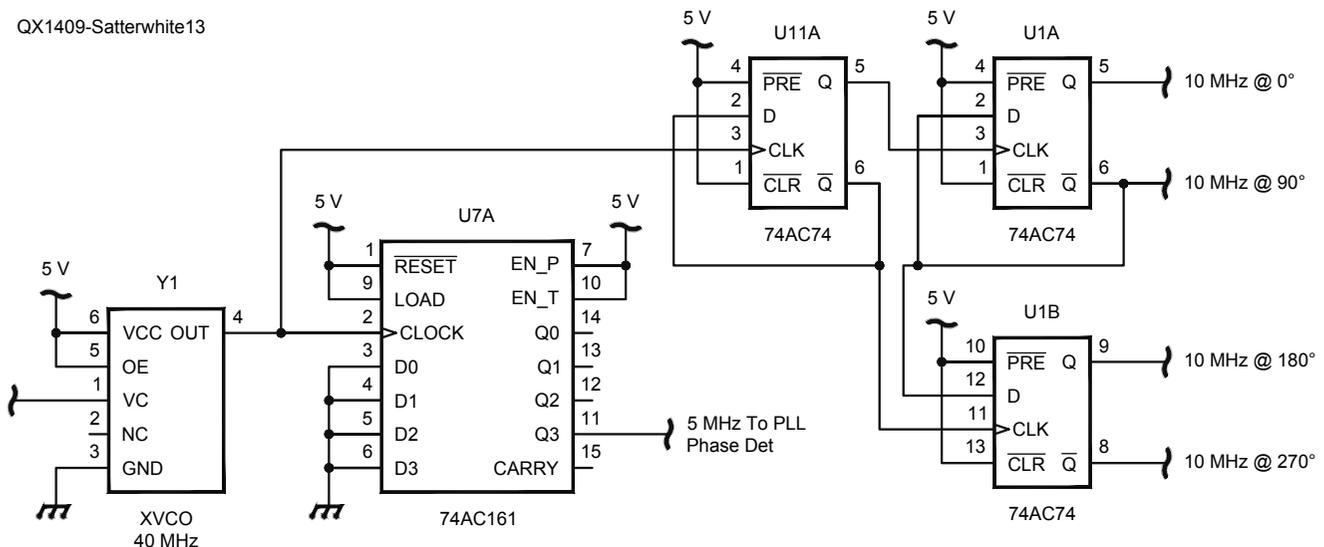

Figure 13 — This is the Quadrature clock circuit.
The circuit I use for the generation of the quadrature clocks is shown in Figure 13. It uses two additional XORs to help remove a very slight nonlinearity of phase versus amplitude at the peaks and valleys of the output. For this, I generate 10 MHz clocks at 0° (I), 90° (Q), 180° (-I) and 270° (-Q). Figure 8 shows the XOR outputs using the four clocks. I and Q are the in-phase and quadrature phase components.
To ensure symmetry, the circuit must be driven by four times the output frequency. Figure 13 shows the circuit for the generation of the quadrature phase detector clocks. Starting with the clock output of the 40 MHz crystal VCO that is phase locked to the 10 MHz reference input, the 40 MHz clock drives the four stage synchronous counter to derive the 5 MHz PLL feedback and the D flip-flops to derive the four quadrature phase detector reference clocks.